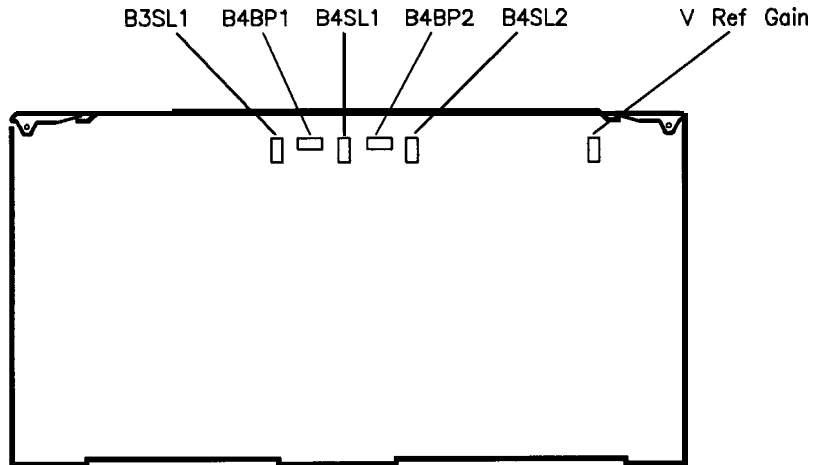

Figure 3-17. AI2 Assembly Potentiometer Locations - HP 83621B/31B
2. Set A12R25, B3S1 (HP 83651B) or B3SL1 (HP 83621B/31B), fully clockwise (see Figure 3-16/Figure 3-17).
6. Adjust A12R25, B3S1 (HP 83651B) or BSL1 (HP 83621B/31B), (see Figure 3-16/Figure 3-17) for maximum power at the high end. The high end power may peak twice. If it does, adjust the potentiometer to the lower peak (where the adjustment is furthest counterclockwise).
2. See Figure 3-16/Figure 3-17 and set: